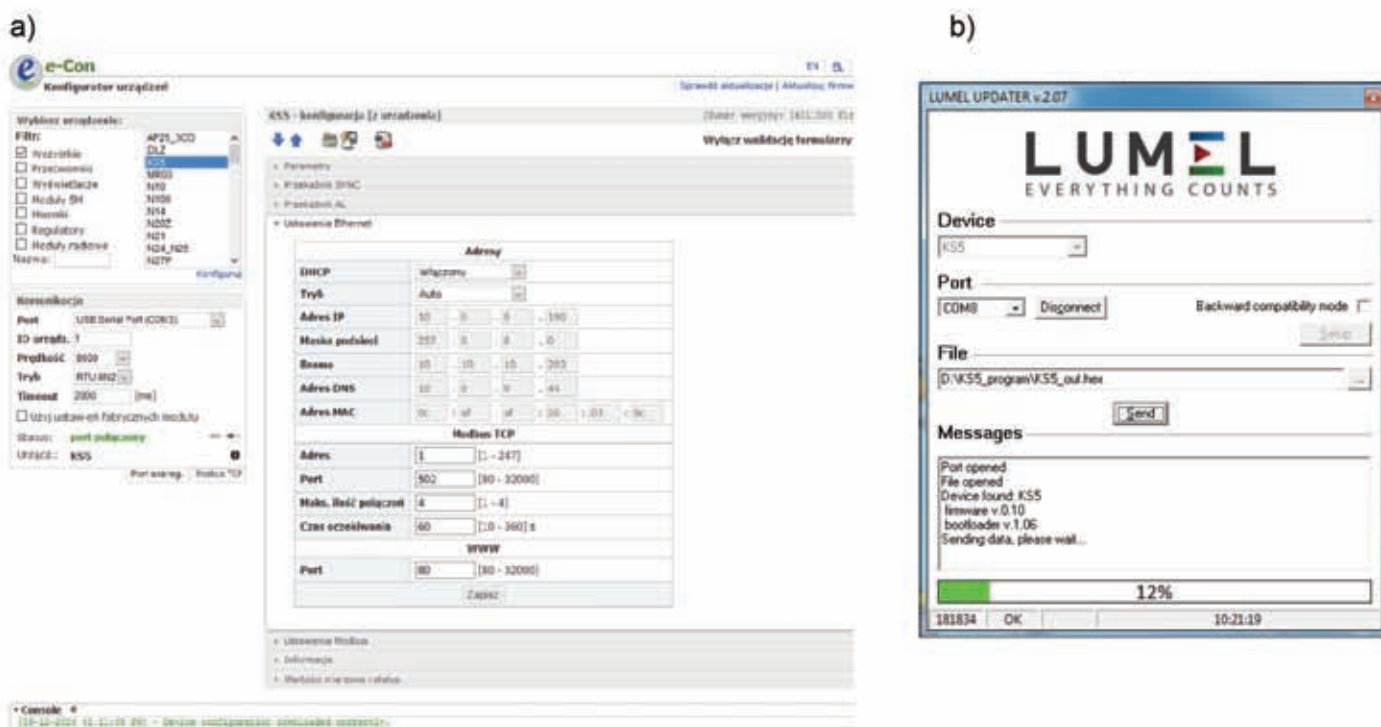

Fig.22. View of program window: a) eCon, b) firmware upgrade
After starting eCon the serial port, speed, mode and meter address should be set in the settings. Then select KS5 meter and click *Configure* To read all the settings, click the down arrow, then the floppy icon to save the settings to a file (to restore them later). After selecting *Update firmware* (in the upper right corner of the screen) *Lumel Updater* (LU) window will open - Fig. 22 b. Press *Connect*. *Messages* information window contains info about the progress of the upgrade process. When the port is properly opened the display shows: *Port opened*. There are two ways to enter the upgrade mode: remotely through the LU (based on settings in eCon - address, mode, speed, COM port) and by turning on the meter power by pushing the button  (when entering the bootloader mode with the button, communication parameters: speed 9600, RTU8N2, address 1). The display will show boot with bootloader version, and LU program will show the message *Device found* and the name and program version of the connected device. Press the "... " button and select the meter update file. When the file is properly opened the following message is displayed *File opened*. Press *Send* button. After successful upgrade the monitor switches to normal operation, and the information window shows *Done* and the upgrade duration. After closing the LU window, go to *Service Parameters*, select *Set Meter Defaults* and press the *Restore* button. Then press the folder icon to open the previously saved settings file and press the up arrow to save the settings in the meter. The current software version can also be checked by reading the greeting messages of the